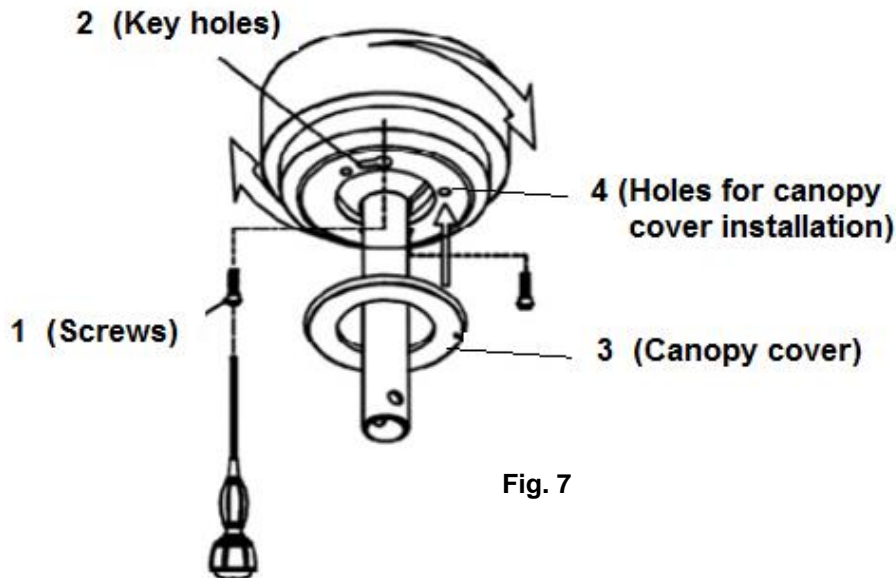

Fig. 7
- Loosen 2 screws (1) from the bottom of the mounting bracket. Fig. 7
- Slide the canopy up to the mounting bracket and place the key hole on the canopy (2) over the screw on the mounting bracket. Turn the canopy until it locks in place at the narrow section of the key holes and secure it by tightening the two set screws. Avoid damaging the electrical wiring prepared previously.
- Finally attach the canopy cover (3) to canopy and secure it by pushing the lugs into the holes (4).